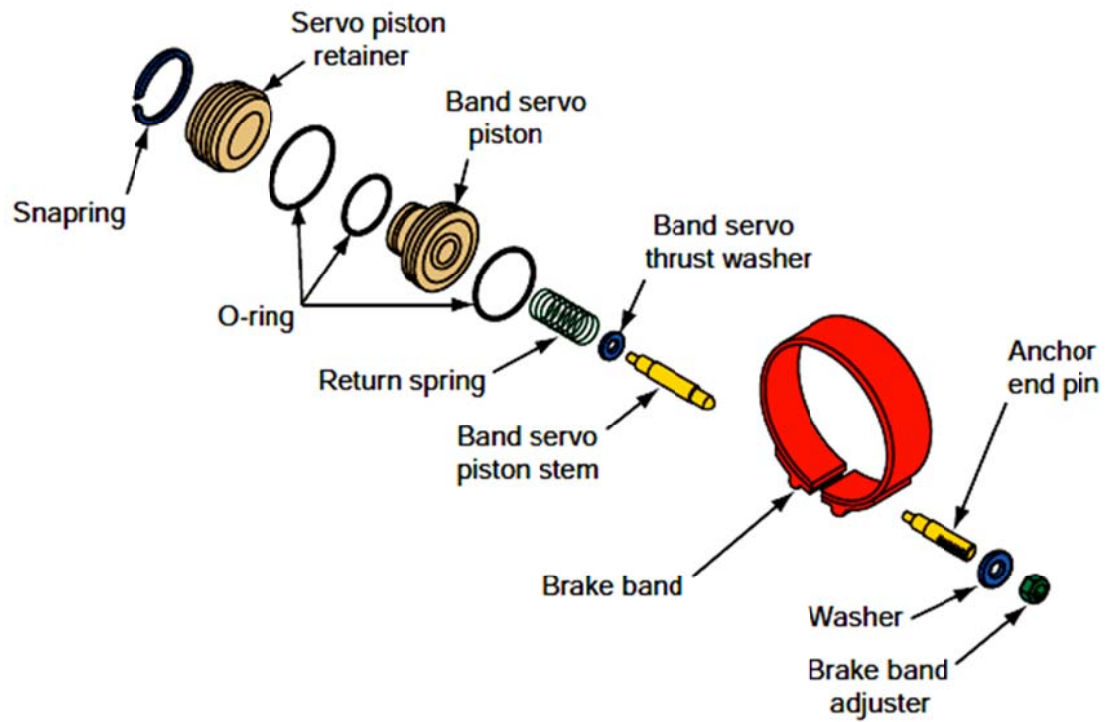

Figure 4
- (a) **Figure 4** shows a Simple Servo. Explain its mechanism.